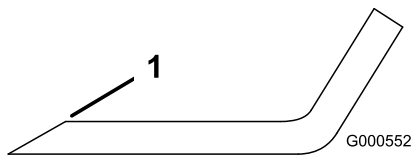

Figure 65
- Use a file to sharpen the cutting edge at both ends of the blade (Figure 65).
**Note:** If the blade is not balanced, file some metal off the end of the sail area only (Figure 65).